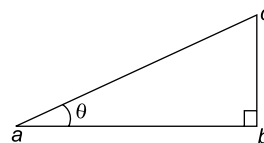

Figure 1.4
From Figure 1.4,  $\sin \theta = \frac{bc}{ac}$        $\cos \theta = \frac{ab}{ac}$
**Problem 4.** In Figure 1.4, if  $ab = 2$  and  $ac = 3$ , determine the angle  $\theta$ .
**Problem 5.** In Figure 1.4, if  $bc = 1.5$  and  $ac = 2.2$ , determine the angle  $\theta$ .
**Problem 6.** In Figure 1.4, if  $bc = 8$  and  $ab = 1.3$ , determine the angle  $\theta$ .